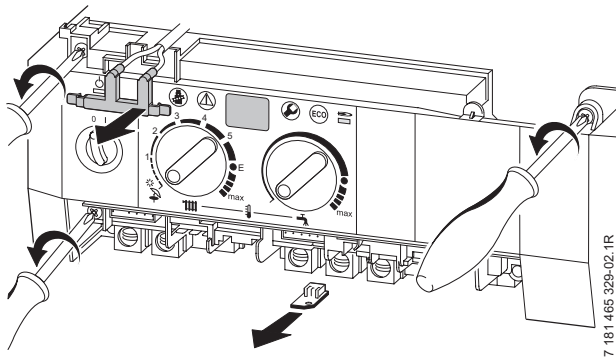

Fig. 59
- ▶ Remove two fixing screws from the control box. Refer to fig. 59.